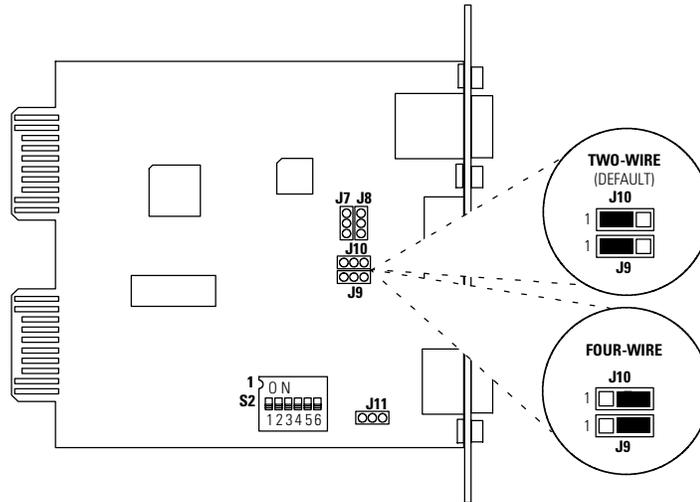

Figure 4. Four-Wire Jumpers
3. Change the jumpers to the desired setting as shown in Figure 4.